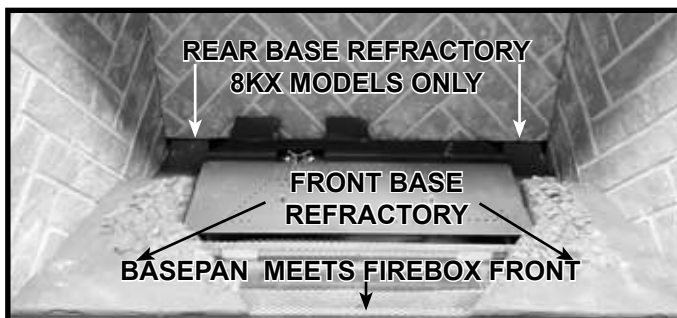
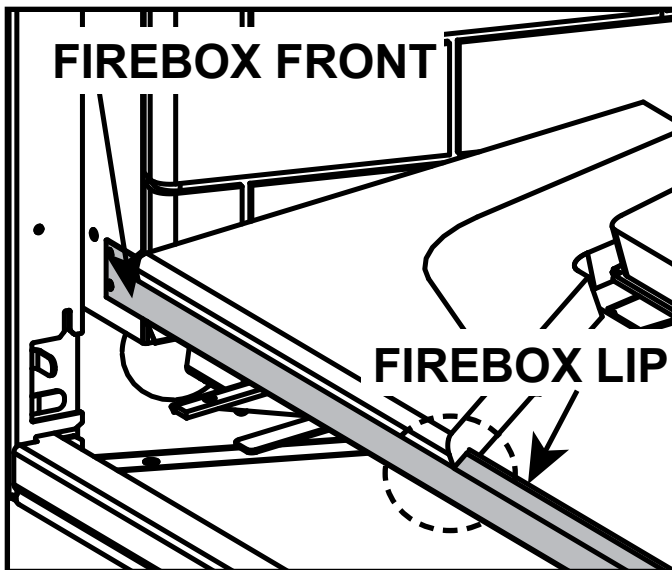

Figure 11.8 8KX Models Only: Base Refractory Pieces Installed
Figure 11.9 Front Base Refractory Installed
8. Prior to placing base refractory, ensure the basepan is centered left to right and is positioned forward enough that it contacts the firebox front as noted in Figure 11.8. Place the two front base refractory pieces as shown in Figure 11.8. Ensure that the profile of the refractory fits over the firebox lip as shown in Figure 11.9.